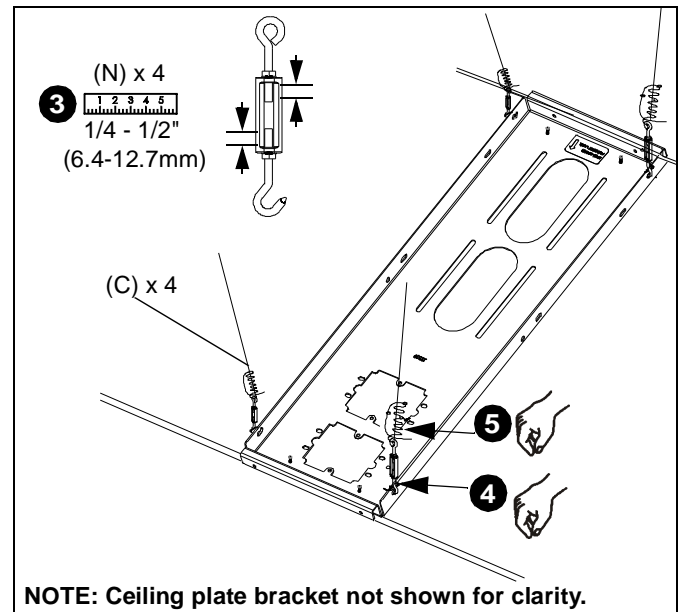

Figure 11
3. Adjust hooks and eyes on turnbuckles (N) so that approximately 1/4" - 1/2" (6.4mm - 12.7mm) of threads show on *inside* of turnbuckles (See Figure 11).
4. Attach the hook end of each turnbuckle (N) to the corresponding hole on the ceiling tray. (See Figure 11)
5. Insert corresponding support wire (C) through eye in each of the four turnbuckles (N). Pull wire tight and twist back around itself at least 4 complete turns, then thread loose end between eye and first turn. (See Figure 11)
6. Adjust turnbuckles (N) until tray (A) is supported *entirely* and *evenly* by all four support wires (C), but not so tight as to distort suspended ceiling framework (See Figure 11).